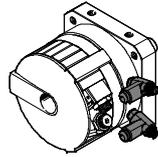

Fig. 20
- Use GRLA one-way flow control valves for setting the swivel speed. These are screwed directly into the compressed air ports (Fig. 20).